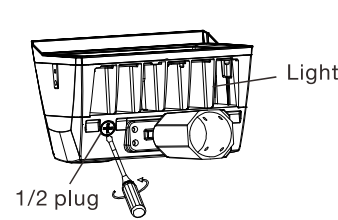
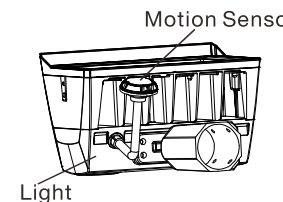

Figure 19
Figure 20
- Take the DC microwave sensor out of the package and screw it into the mounting hole (if there is no plug in the mounting hole), or take away the 1/2 plug (FIGURE 19) and screw the DC motion sensor or PIR sensor into the mounting hole. Then adjust the DC microwave to get the function needed by using the remote control (FIGURE 20)